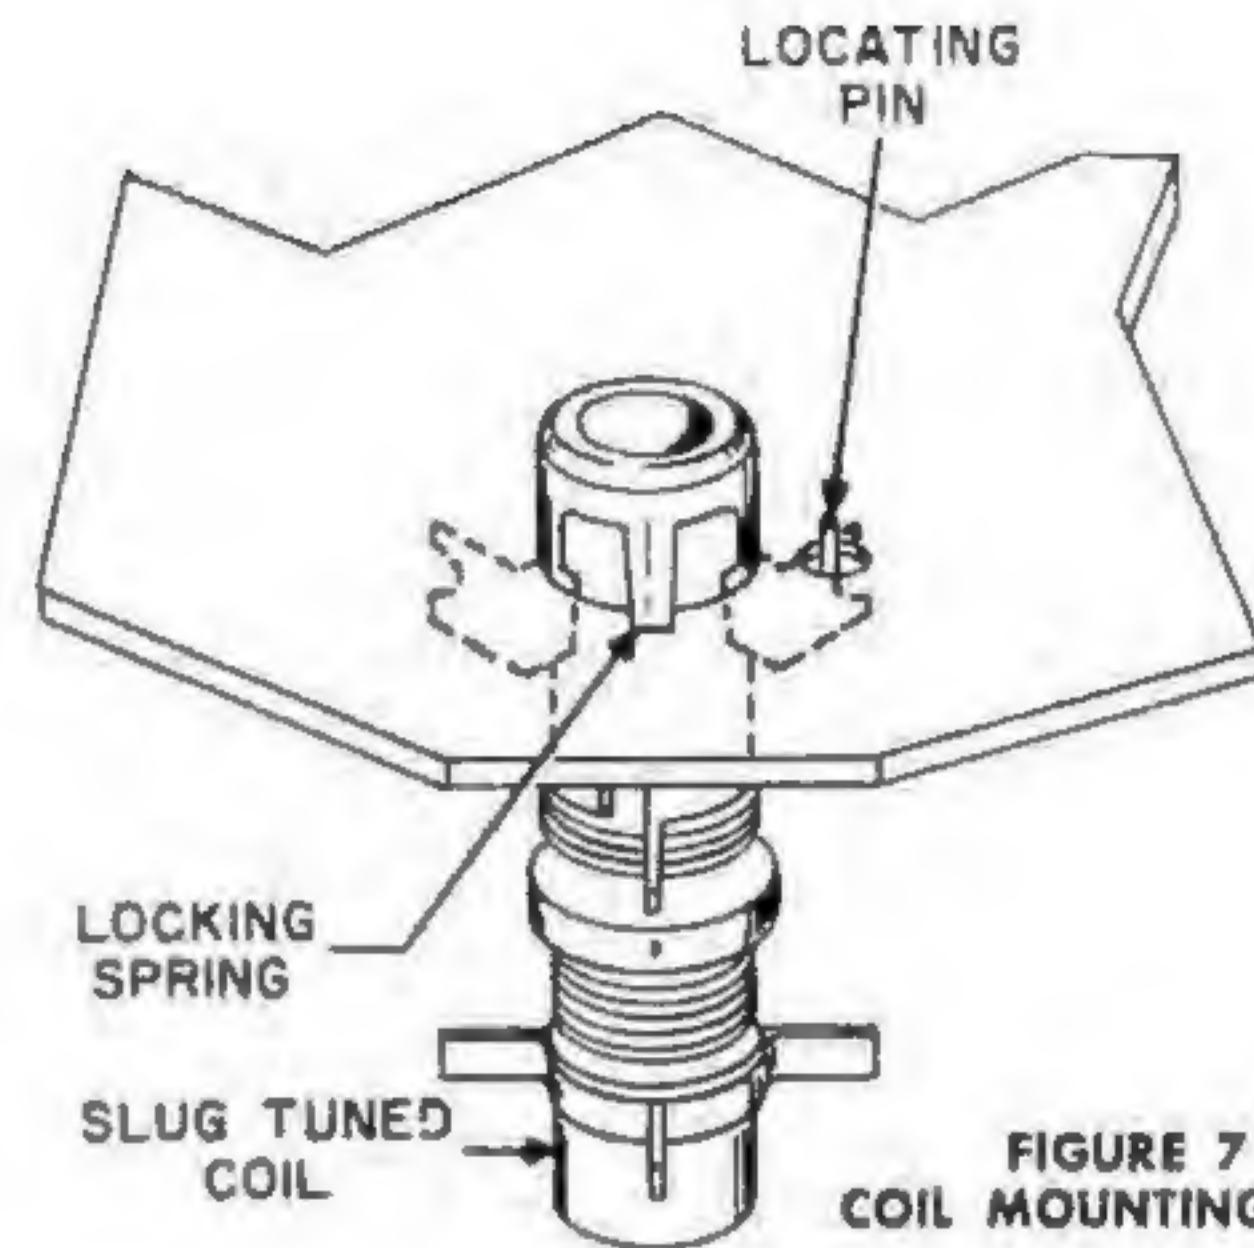

FIGURE 7
- L-5, the yellow dot coil. Mount from inside the chassis, as shown in Figure 7. Be sure the locating pin is correctly positioned before pushing the locking spring through the chassis.